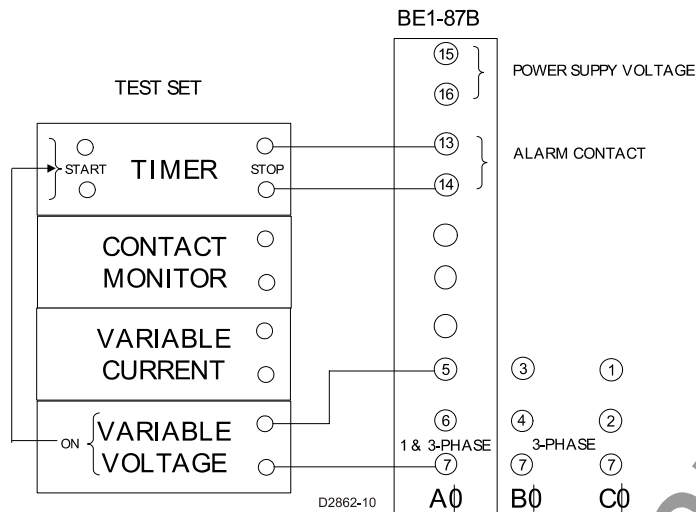

Figure 5-3. Alarm Voltage Test Setup
| Figure 5-3. Alarm Voltage Test Setup | 5-4 |
2. Set the Alarm Voltage Control to 10%. The Alarm Voltage pickup setting should be 5 volts rms (0.1×50) $\pm 5\%$. Connect the relay as per the test diagram in Figure 5-3. Energize the relay power supply and verify that the CT OV and Trip LEDs are reset.